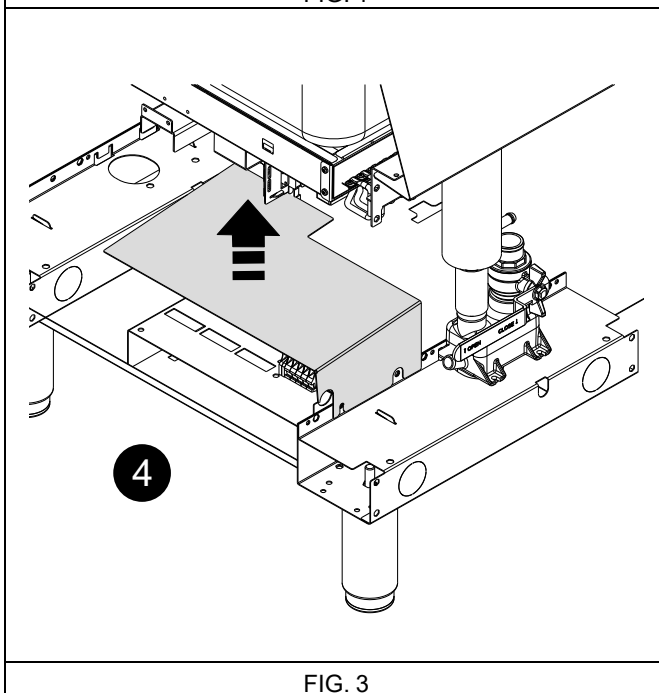

FIG. 3
1. Undo screw coupling "H" (see FIG. 3);
4. Loosen the screws of the terminal block protection panel to shift it upwards (see detail 4 —FIG. 3).